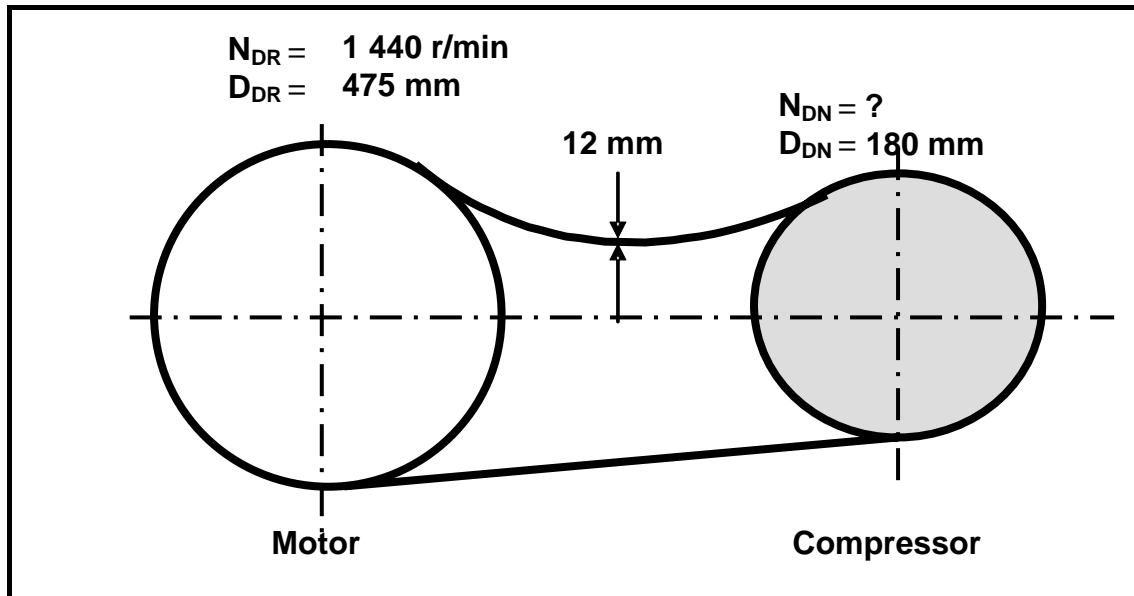

FIGURE 6.2
6.3 The V-belt drive system of a compressor is shown in FIGURE 6.2. The driver pulley of the belt drive system rotates at 1 440 r/min. The driver pulley has a diameter of 475 mm and the driven pulley has a diameter of 180 mm. The thickness of the belt used in this system is 12 mm.